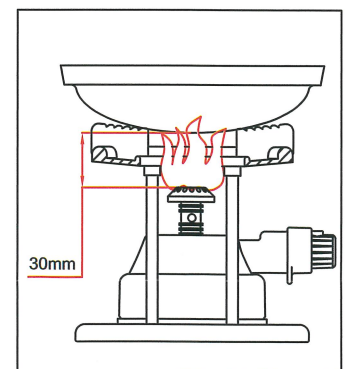

figure 4
- Keep the burner head at least 30mm away from the bottom of cooker. (Please see **figure 4**)